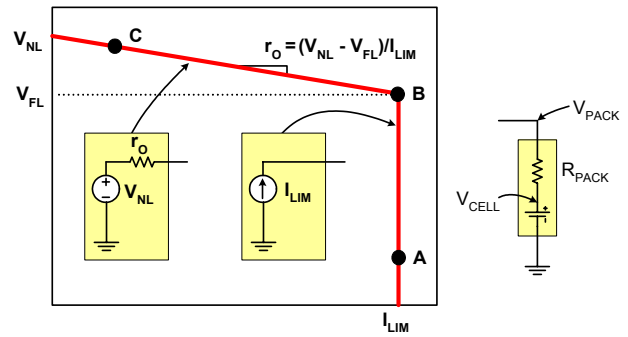

FIGURE 24. THE IDEAL I-V CHARACTERISTICS OF A CURRENT LIMITED ADAPTER
Figure 24 shows the ideal current-voltage characteristics of a current-limited adapter.  $V_{NL}$  is the no-load adapter output voltage and  $V_{FL}$  is the full load voltage at the current limit  $I_{LIM}$ . Before its output current reaches the limit  $I_{LIM}$ , the adapter presents the characteristics of a voltage source. The slope  $r_O$  represents the output resistance of the voltage supply. For a well regulated supply, the output resistance can be very small, but some adapters naturally have a certain amount of output resistance.
current-voltage characteristics curve, such as point A, to higher voltage until reaching the breaking point B, as shown in Figure 24.
The adapter is equivalent to a voltage source with output resistance when running in the constant-voltage region; because of this characteristic. As the charge current drops, the adapter output moves from point B to point C, shown in Figure 24.
The battery pack can be approximated as an ideal cell with a lumped-sum resistance in series, also shown in Figure 24. The ISL6292 charger sits between the adapter and the battery.
As described earlier, the ISL6292 minimizes the thermal dissipation when running off a current-limited ac adapter, as shown in Figure 18. The thermal dissipation can be further reduced when the adapter is properly designed. The following demonstrates that the thermal dissipation can be minimized if the adapter output reaches the full-load output voltage (point B in Figure 24) before the battery pack voltage reaches the final charge voltage (4.1V or 4.2V). The assumptions for the following discussion are: the adapter current limit = 750mA, the battery pack equivalent resistance = 200mΩ, and the charger ON resistance is 350mΩ.
A critical condition of the adapter design is that the adapter output reaches point B in Figure 24 at the same time as the battery pack voltage reaches the final charge voltage (4.1V or 4.2V), that is:
If the battery pack voltage reaches 4.2V (or 4.1V) before the adapter reaches point B in Figure 24, a voltage step is expected at the adapter output when the pack voltage reaches the final charge voltage. As a result, the charger power dissipation is also expected to have a step rise. This case is shown in Figure 18 as well as Figure 27 (C). Under this condition, the worst case thermal dissipation in the charger happens when the charger enters the constant voltage mode.